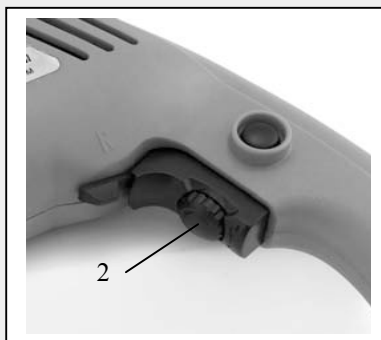

Fig. 2
- 1. Clockwise turning of dial increases speed of hammer drill (2) (Fig. 2).